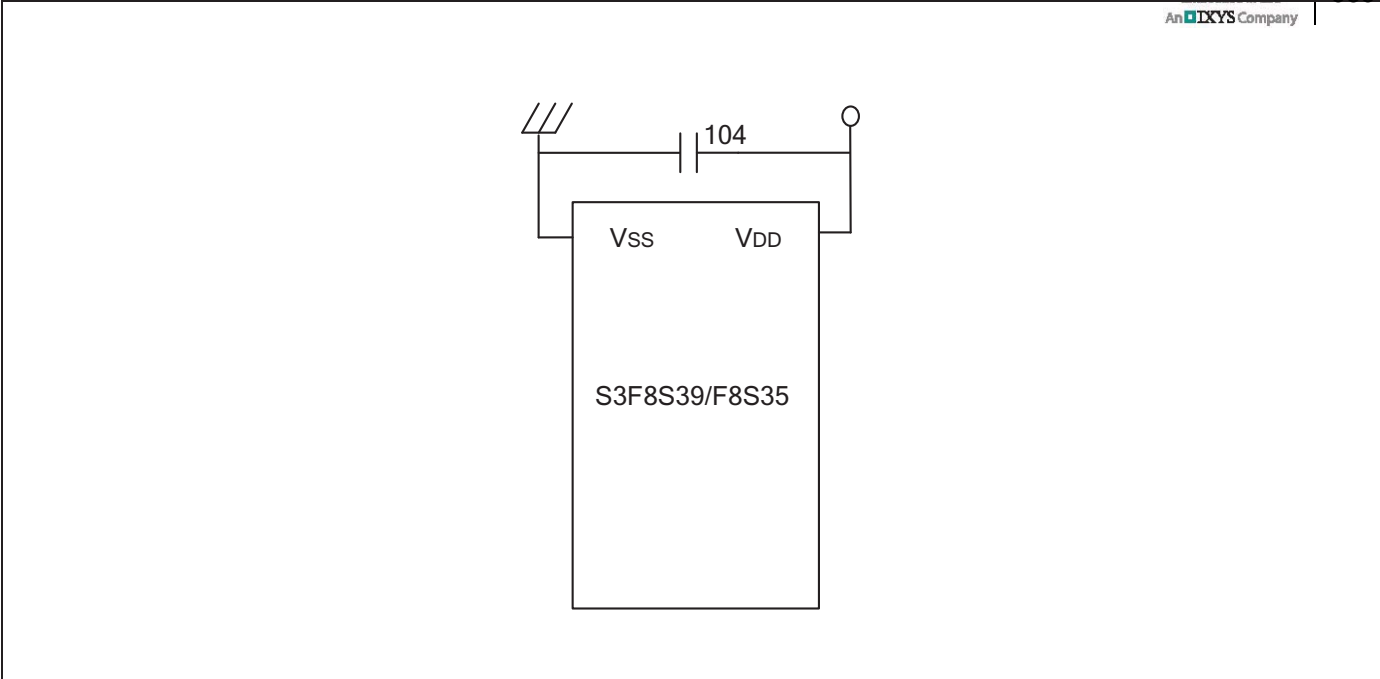

Figure 23-7 The Circuit Diagram to Improve EFT Characteristics
Figure 23-7 illustrates the circuit diagram to improve EFT characteristics.
**NOTE:** To improve EFT characteristics, use power capacitor near S3F8S39/F8S35 as illustrated in Figure 23-7.